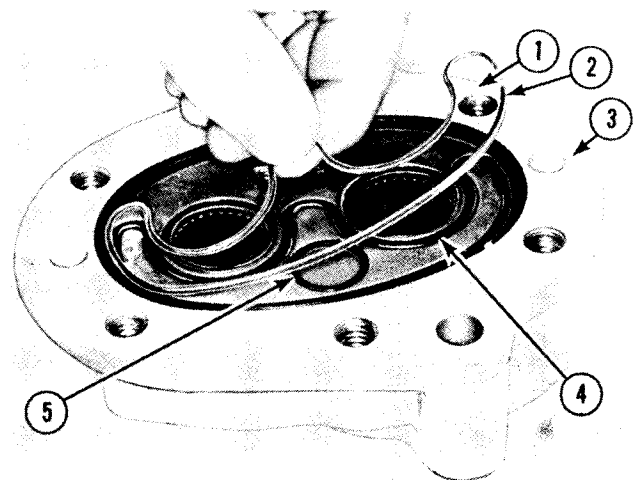

Figure 3-53
Remove the back-up ring (2, Fig. 3-53) "O"-ring (5) and seal rings (1 and 4) from the body (3).
Install the new seal rings (1 and 4, Fig. 3-53), "O" ring (5) and back-up ring (2) in the body (3).